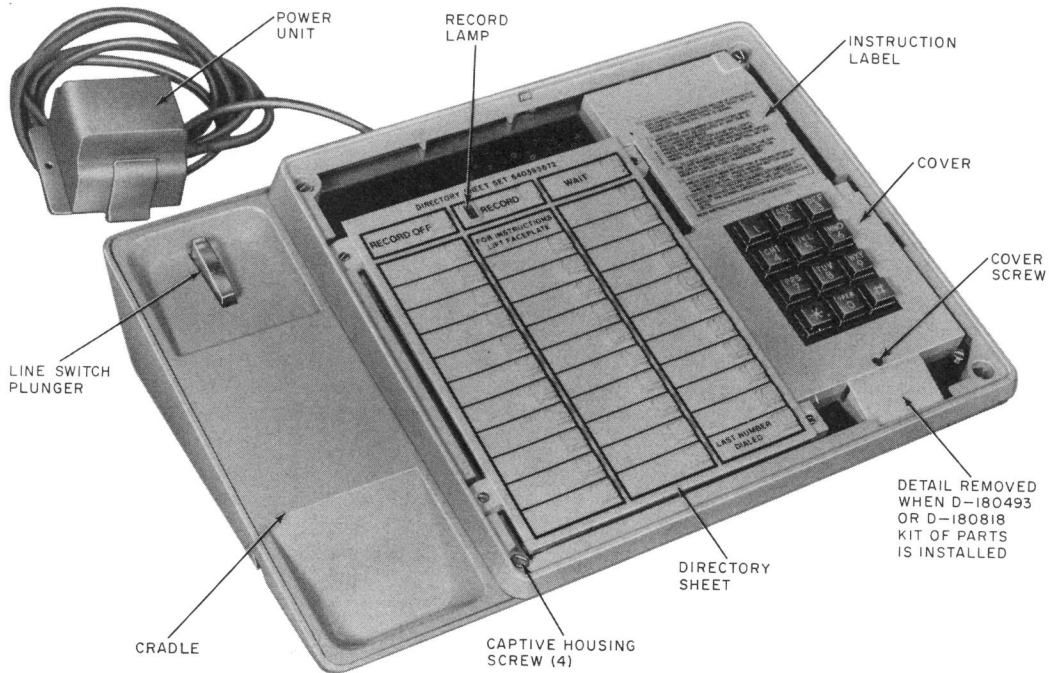

Fig. 2—Telephone Set—Faceplate and Handset Removed
- 3.05** The directory sheets (Fig. 2) fit over the buttons of the Memory and are held in place by the faceplate. Additional sheets are available in the directory sheet set (840393672).
- (3) Lock the board into position by inserting the accompanying self threading screw through the right side of the chassis.
- (4) Mount the one-touch calling switch below the dial with the two screws provided.
- (5) Make connections per Table C or E.
- (6) Break off the detail at the bottom of the cover (Fig. 2) and trim edge as required.
- (7) Verify correct operation of option.
- (8) Reassemble set.